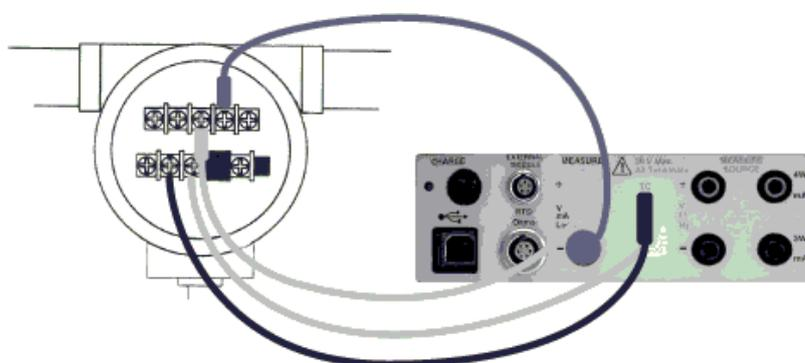

Figure 21: Calibrating a Transmitter
- Connect the calibrator to the transmitter (shown in Figure 21).